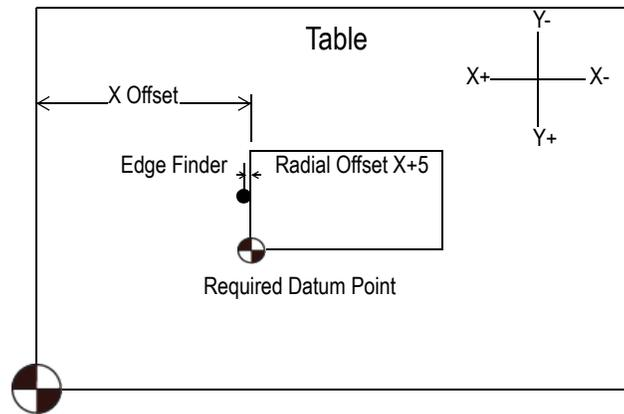

Figure 6-1: X-Axis Location
2. Using the axis direction pushbuttons position the edge finder near the left-hand side of the work piece (Figure 6-1:).
- Type the current programme position from datum edge to spindle centreline e.g. X+5 (Figure 6-1:)